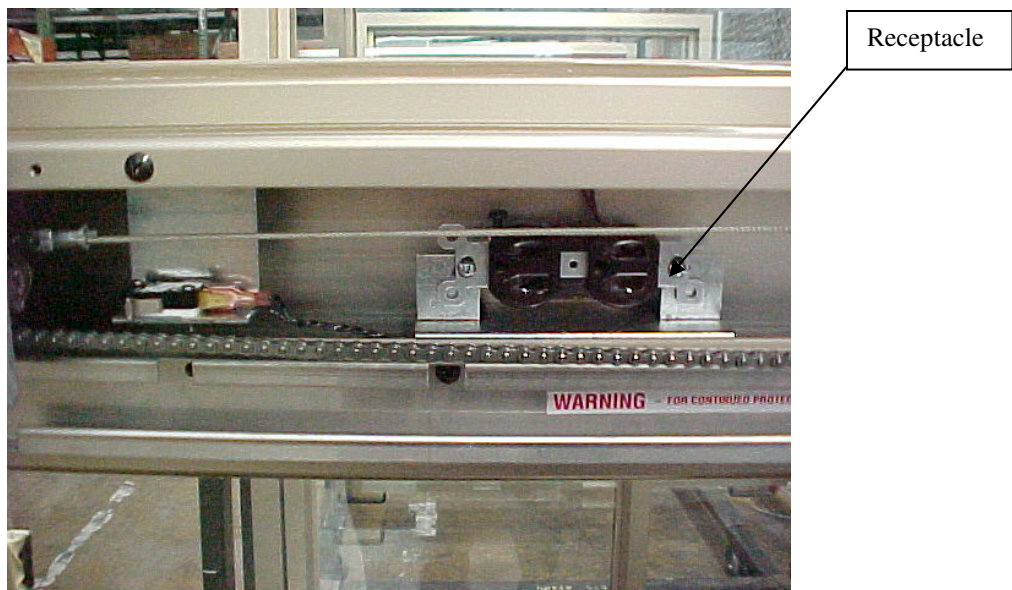

Figure 6 (Pre – 2003 models)
2. Wire the AC source line to the duplex receptacle. (See Figure 6)